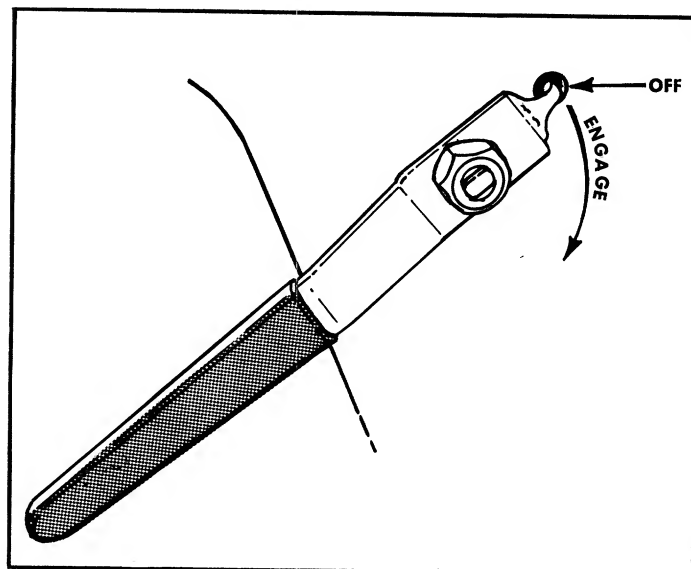

FIGURE 13. PTO LEVER
7. Place the PTO Lever in the OFF position. See Figure 13.